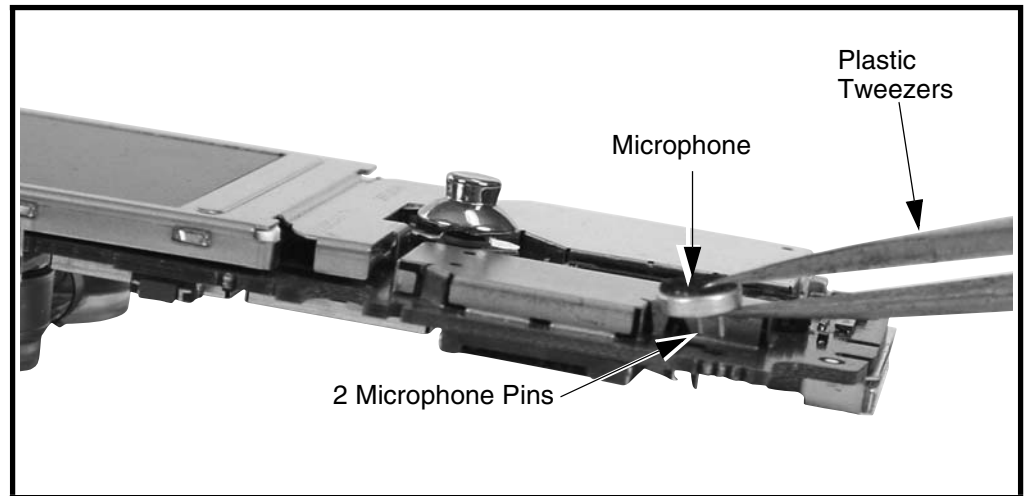

Figure 10. Removing and Replacing the Microphone
4. Use the plastic tweezers to unplug the microphone from the transceiver board as shown in Figure 10.